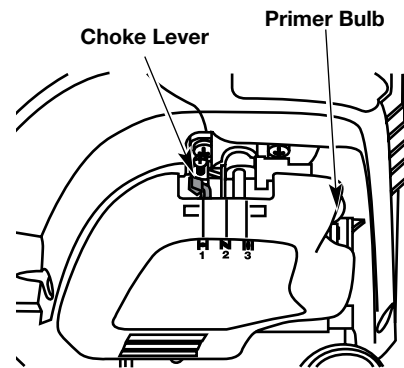

Fig. 7
4. Fully press and release the primer bulb 10 times, slowly. Some amount of **fuel should be visible in the primer bulb and fuel lines** (Fig. 7). If you can't see fuel in the bulb, press and release the bulb as many times as it takes before you can see fuel in it.
5. Place the choke lever in **Position 1** (Fig. 7).
7. Place the choke lever in **Position 2** (Fig. 7).
10. Place the choke lever in **Position 3** (Fig. 7). The unit is ready for use.